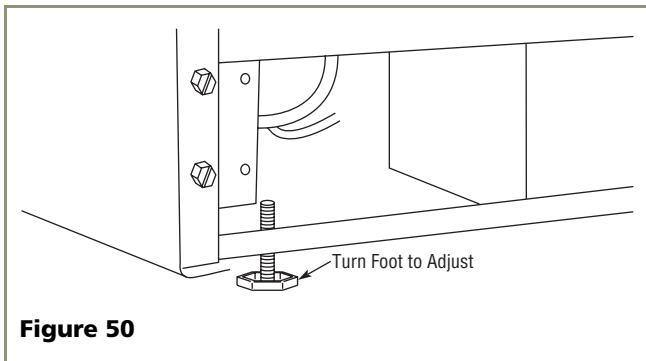

Figure 50
2. If the ice maker is not level, adjust the feet on the corners of the unit as necessary (see **Figure 50**).